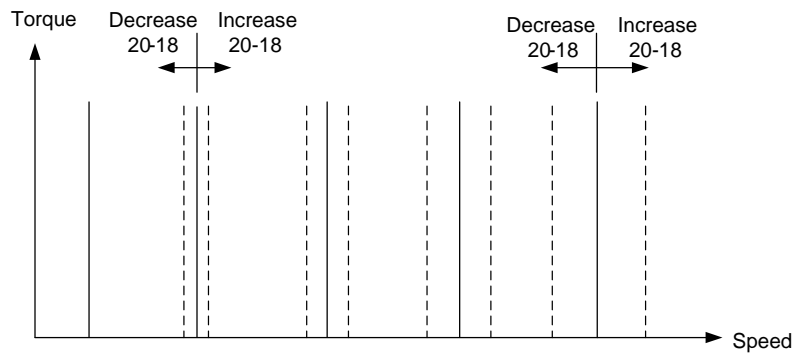

Figure 4.3.100 Effect on the torque-speed curve from 20-17
- Use parameter 20-18 to adjust the torque compensation gain for middle to high speed range. For most general purpose applications it is not necessary to adjust the 20-18. By tuning 20-18an offset is added to the torque-speed curve. Increase 20-18 when the no-load speed is lower than the frequency reference. Decrease 20-18 when the no-load speed is higher than the frequency reference. The effect on the torque-speed curve from 20-18 is shown as the following Fig.4.3.100.